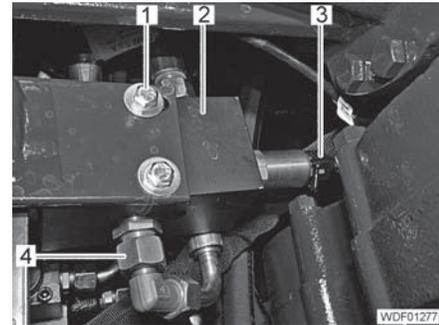

Fig. 190 Valve attachment
- Remove the plug (Fig. 190,3).
- Unscrew and close off the hydraulic line (Fig. 190,4).
- Unscrew the 2 screws (Fig. 190,1) and remove the valve (Fig. 190,2).
- Place on the valve (Fig. 190,2).
- Insert and tighten 2 screws (Fig. 190,1) with spring lock washers and disks.
- Screw the hydraulic line (Fig. 190,4) onto the connection on the valve and tighten.
- Insert the connector (Fig. 190,3) on the valve.